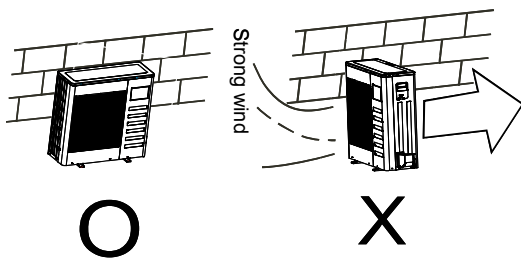

Fig 4.1
- In the case that the installation place is exposed to strong wind such as a seaside, make sure the fan operating properly by putting the unit lengthwise along the wall or using a dust shield.(Refer to Fig 4.1)